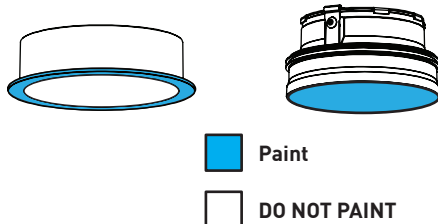

*Fig.65*
- D. Carefully pull on driver wiring harness to release the driver from the spring tab. Remove driver through housing aperture. (*Fig.65*).